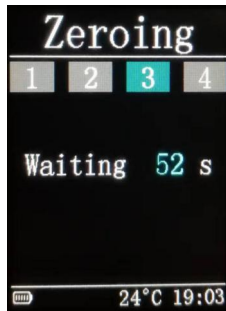

fig 23
- iii. Confirm it and wait for the calibration to complete, as shown in Figure 23.